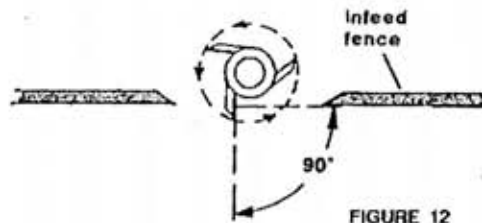

FIGURE 12
4. Position the leading face of a cutterhead blade at 90 degrees to the in feed fence face. Position the workpiece against the in feed fence and adjust the spindle to the desired height of the cut. At the same time, check the desired depth of cut with the blade in the 90 degree position as shown in figure 12.